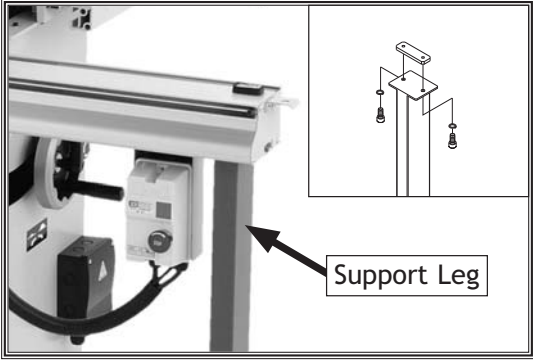

Figure 32. Support leg installed (1 of 2 shown).
28. Thread two M10-1.5 x 30 cap screws and 10mm lock washers through each support leg and part way into the T-slot plates for the legs, slide the T-slot plates into the both ends of the sliding table base, and tighten the mounting cap screws (see **Figure 32**).